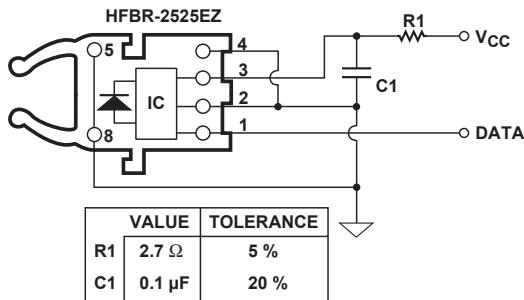

Figure 11. Recommended receiver application circuit
7. Pin 4 is electrically isolated internally. Pin 4 may be externally connected to pin 1 for board layout compatibility with HFBR-25X1Z, HFBR-25X2Z and HFBR-25X4Z. Otherwise it is recommended pin 4 be grounded as in Figure 11.